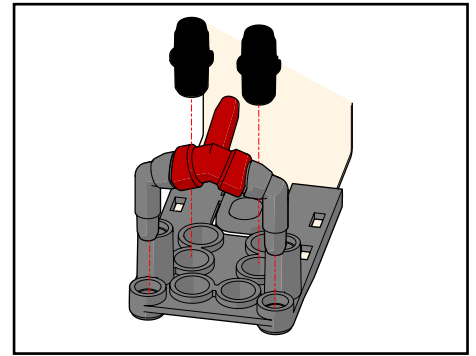

Figure 38.
3. Detach the spouts from the arm (see Figure 38).